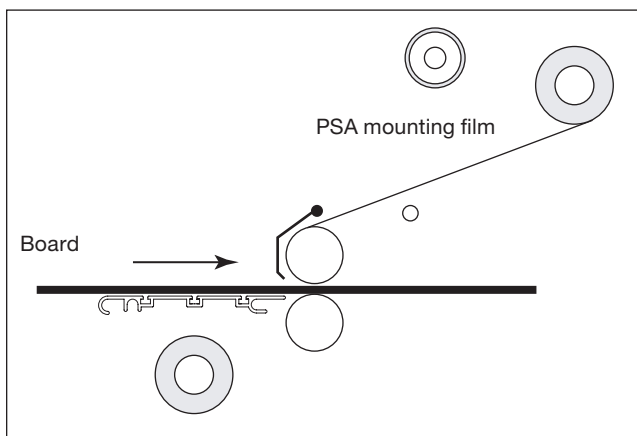

Fig. 6-27. Laminator Set Up for Pre-treating Boards With Single Liner Mounting Film.
1. Load the laminator as shown in Fig. 6-27 or 28.